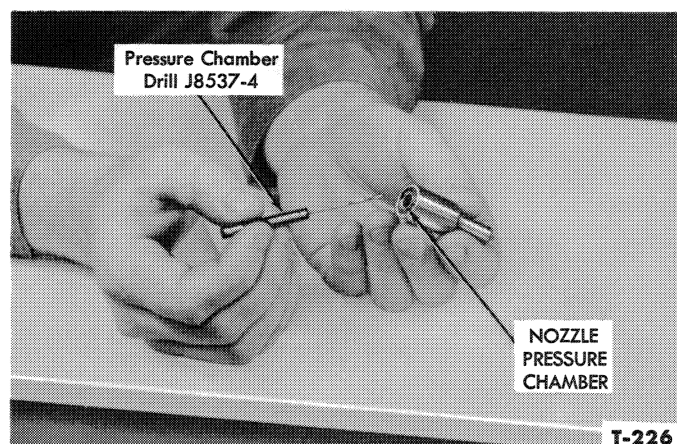

Figure 12—Cleaning Nozzle Pressure Chamber
2. Clean the pressure chamber of the nozzle with the 0.043" Pressure Chamber Drill J8537-4, Figure 12.